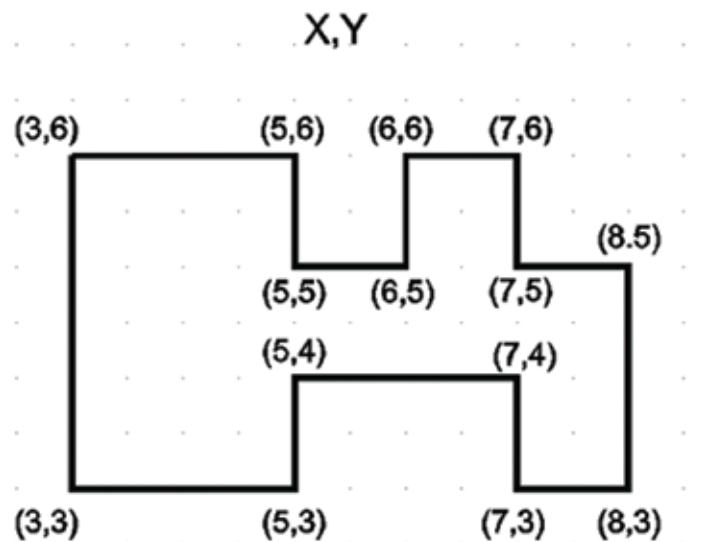

Figure 5.2
A full size drawing of our first object drawn with absolute coordinates” is shown in Figure 5.2.
- We will begin the drawing shown in Figure 5.2 by starting in the upper left hand corner.
These coordinates use the Cartesian XY system. The first coordinate is 3 units to the right of the origin along the X axis. The second coordinate is 6 units up from the origin along the Y axis. Where these two lines intersect is your set of coordinates. (See Figure 5.2).
- Notice that the first horizontal line is drawn between the coordinates you specified (see Figure 5.2).
8. Continue to enter the values show in Figure 5.2 until your drawing is complete. If you enter a value in error, you may erase the wrong line and re-enter using the correct values.